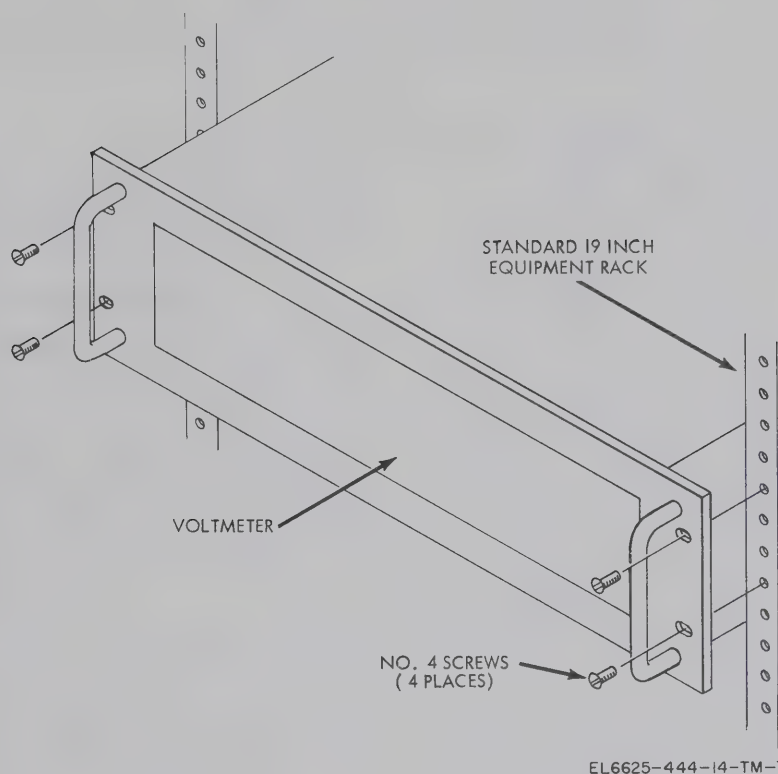

Figure 2-2. Rack installation.
(1) Position the voltmeter in the equipment rack and attach in place in accordance with figure 2-2.